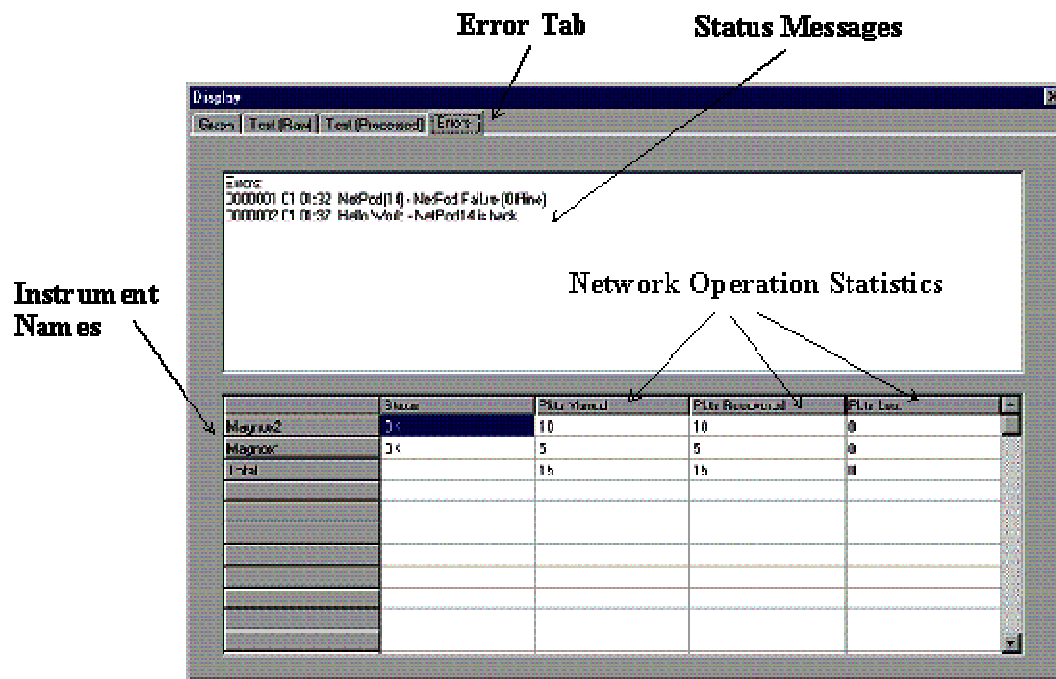

Figure15 Error Report Window
2. Move the mouse pointer over the Pod chosen for channel configuration. Select by pressing the left hand mouse button or the + symbol; which appears adjacent to the Pod for which channel details are going to be adjusted, or directly the channel which is going to be configured. Figure 15 shows the **Edit Channel** Window